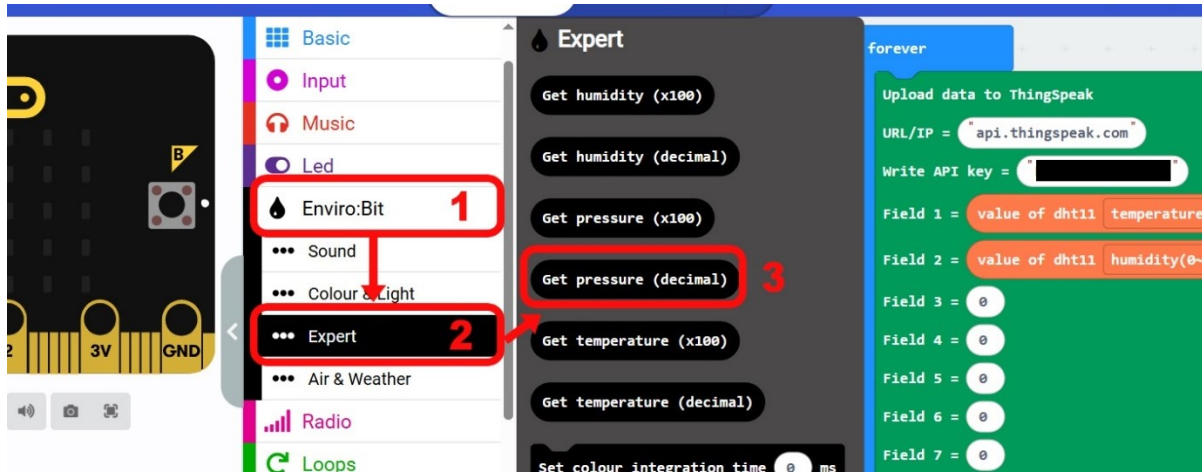

Figure 26: Finding the Get pressure decimal command
Click on the **Enviro:Bit** group of commands (1), then click on the “...Expert” menu (2) to find the “**Get pressure (decimal)**” block of command (*Figure 26*).